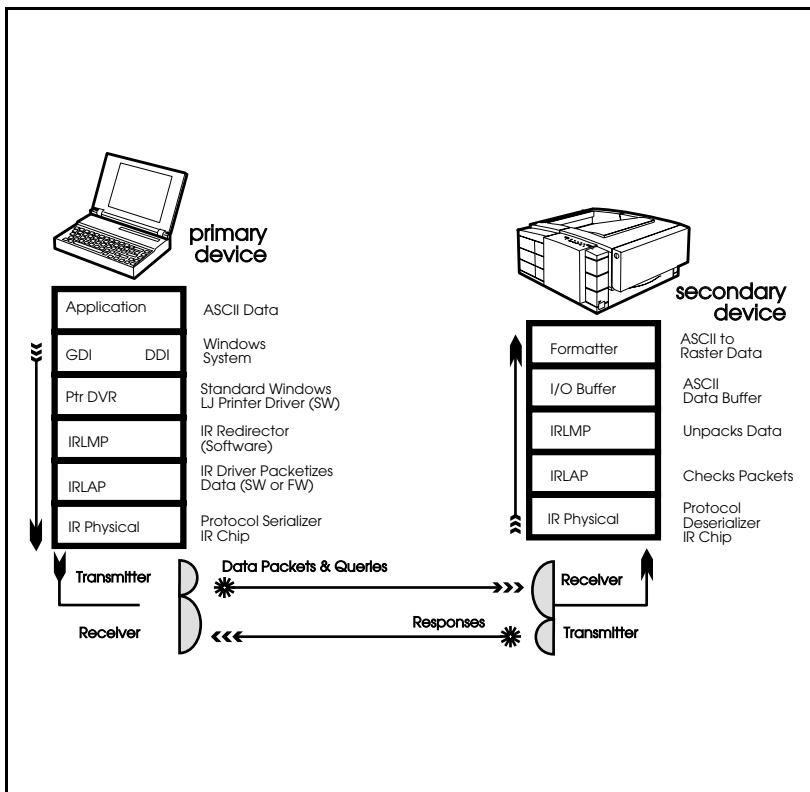

Figure B-5 IR Data Flow
The data flow is shown in Figure B-5.
- 2 Align your laptop computer (or other portable equipment) that is equipped with an IrDA-compliant IR port within 3 feet (1 m) of the IR pod and at an angle of plus or minus 15 degrees to ensure printing (Figure B-5).